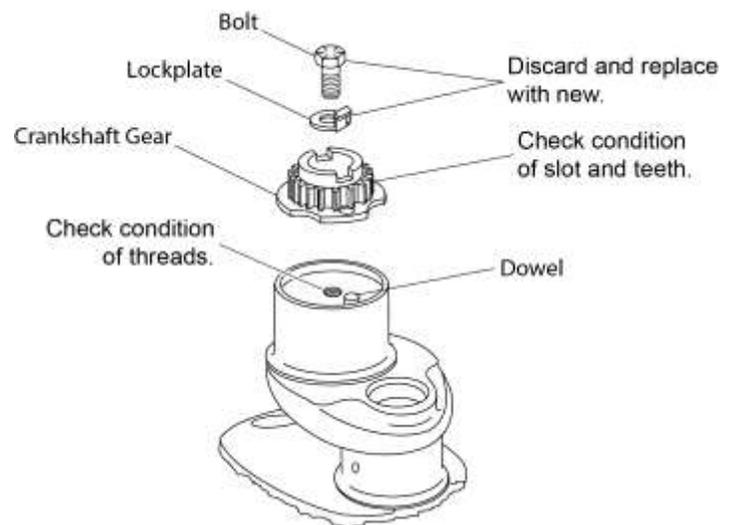

Figure 20
NOTICE: Any time the crankshaft gear bolt (Figure 20) and lockplate are removed from the crankshaft gear, the bolt and lockplate are to be discarded and replaced with a new bolt and new lockplate for the applicable crankshaft gear. The discarded bolt and lockplate are not to be re-installed on any engine.
B. Remove the crankshaft gear bolt, lockplate, and crankshaft gear from the crankshaft (Figure 20). Discard the bolt and the lockplate.
NOTICE: Do not remove the alignment dowel (Figure 20) from the end of the crankshaft unless it is damaged. Replace a damaged alignment dowel per the “Alignment Dowel Replacement” procedure in this chapter.